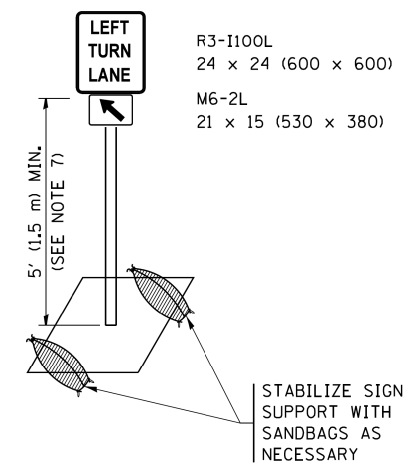

**FIGURE 2**
B) WHEN "L" IS  $>$  THE STORAGE LENGTH OF THE TURN LANE OR THE TURN LANE IS WITHIN THE LANE CLOSURE, USE FIGURE 2.
2. CONES MAY BE SUBSTITUTED FOR BARRICADES OR DRUMS AT HALF THE SPACING DURING DAY OPERATIONS. CONES SHALL BE A MINIMUM OF 28 (710) IN HEIGHT.
4. REFLECTIVE TEMPORARY PAVEMENT MARKINGS SHALL BE PLACED THROUGHOUT THE BARRICADED AREAS OF EACH TURN BAY AS SHOWN WHERE THE CLOSURE TIME IS GREATER THAN FOURTEEN (14) DAYS.
5. THIS APPLICATION ALSO APPLIES WHEN WORK IS BEING PERFORMED IN THE RIGHT LANE(S) AND THE RIGHT TURN BAY IS TO REMAIN OPEN. UNDER THIS CONDITION, "RIGHT TURN LANE" R3-I100R 24 x 24 (600 x 600) AND M6-2R 21 x 15 (530 x 380) SHALL BE USED.